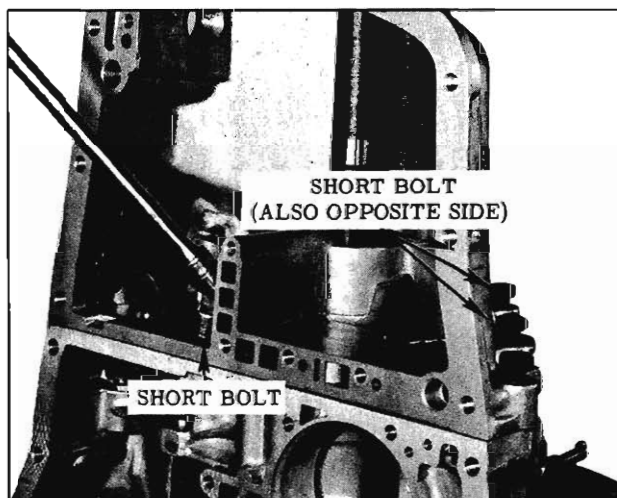

Fig. 6-28 Rear Bearing Retainer Bolts
3. Rotate the transmission so that the output shaft is up, then remove the rear bearing retainer to case attaching bolts (six on outside and two on inside of rear bearing retainer.) (Fig. 6-28)